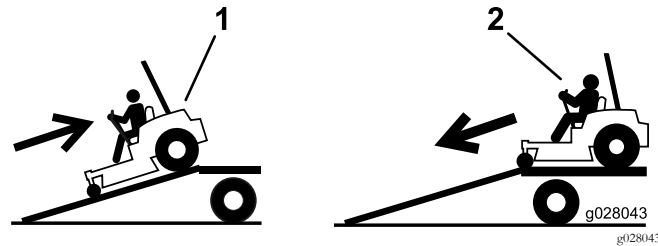

Figure 36
- Securely fasten the machine to the trailer or truck with straps, chains, cable, or ropes. Only use the four designated tie-down locations on the mower—two on the left side and two on the right (see Figure 36). Use these locations even when transporting the mower with an attached accessory. Using non-designated locations may cause damage to the mower and/or attachment.
ramp that is wider than the machine for this procedure. Back up ramps and drive forward down ramps (Figure 36).